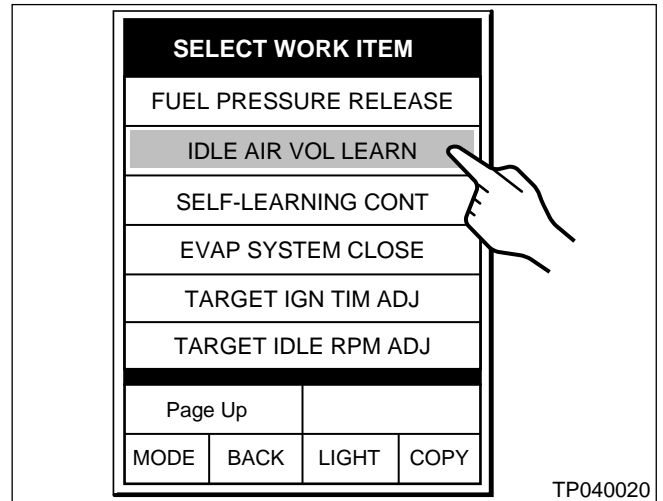

Figure 1
8. In the **CONSULT WORK SUPPORT** mode, select **IDLE AIR VOL LEARN**. See Figure 1.